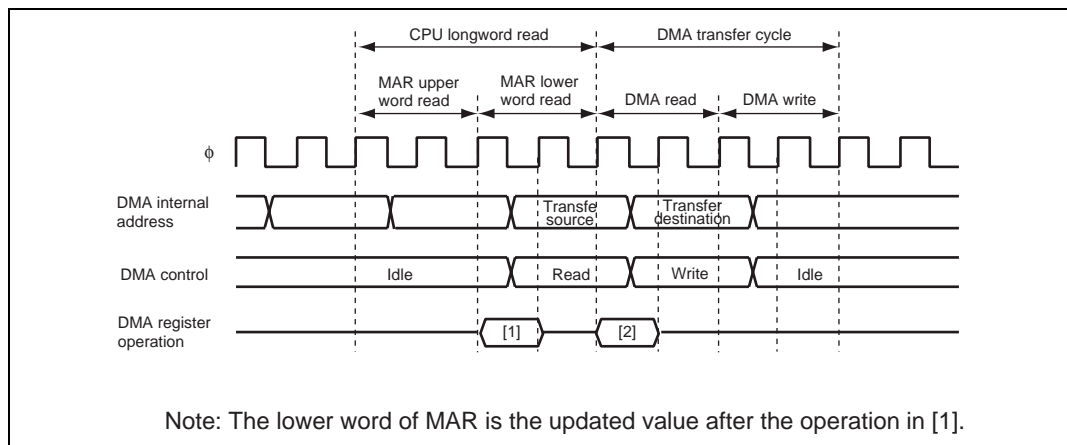

Figure 8.39 Contention between DMAC Register Update and CPU Read
- If a DMAC transfer cycle occurs immediately after a DMAC register read cycle, the DMAC register is read as shown in figure 8.39.